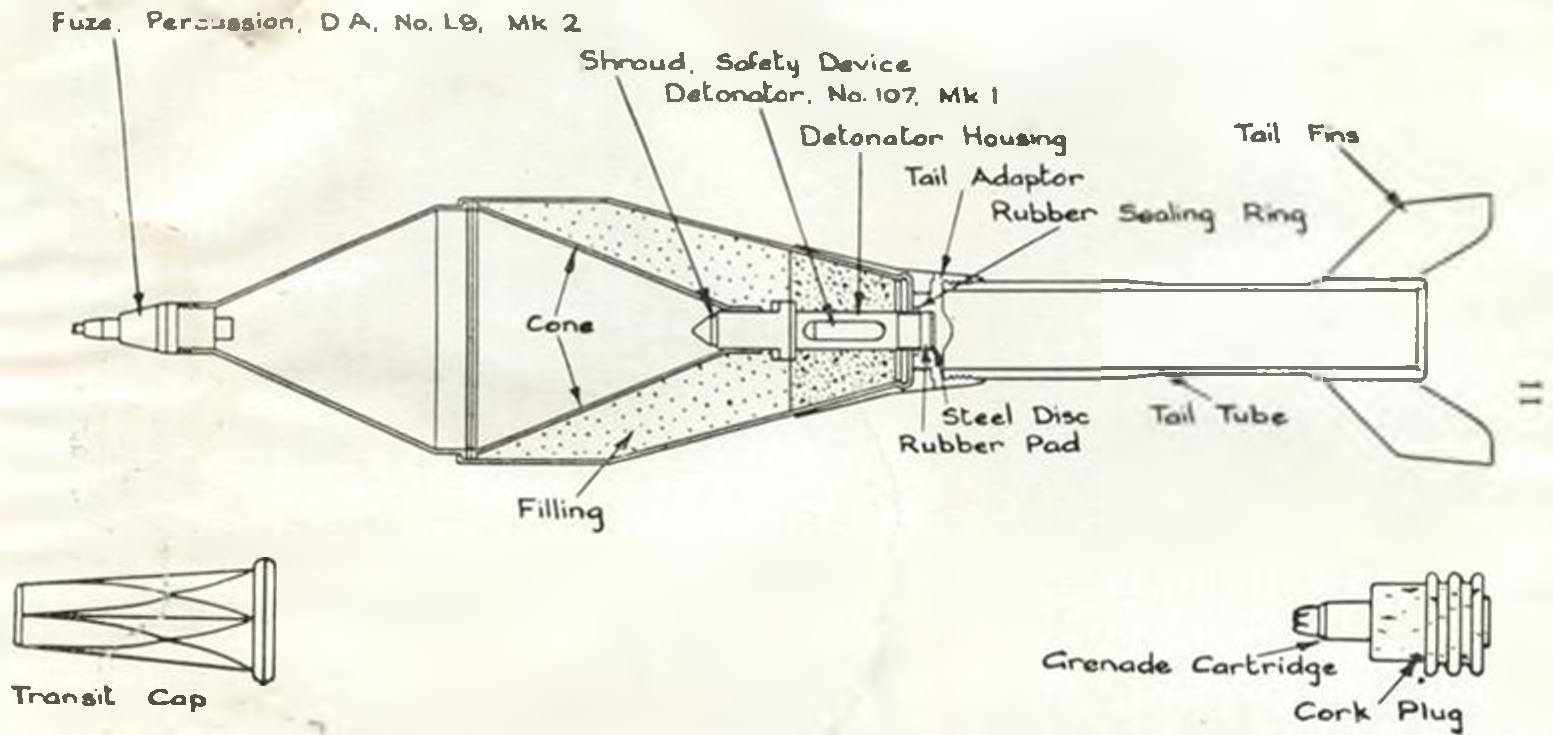

Fig 2.—Grenade, No. 94 (Energia) mechanism
Description of grenade (see Fig 2 and Plate 1).
- (iii) Hold the grenade to the light and look inside to see if the shroud (see Fig 2) is in position. If it is, the nose of the shroud will reflect the light. If it is not, nothing will be visible. If nothing can be seen, or if, when the grenade is moved gently from side to side, a rattle is heard in the body, the grenade will NOT be fuzed and will be destroyed as a blind.
30. *Grenade mechanism (see Fig 2).*—When the grenade is fired, the fuze in the nose becomes armed, and after a delay (during which the grenade has travelled about five or six feet) the protective cap (shroud), which covers the main detonator in the tail of the grenade, is released and ejected from its housing, unscreening the detonator. On impact the detonator in the Mark 1 fuze moves forward onto the striker, and sends a flash to the main detonator, thus exploding the main charge; the Mark 2 fuze has a movable striker and firing pin, and on impact the firing pin is driven in and there is a simultaneous movement of the